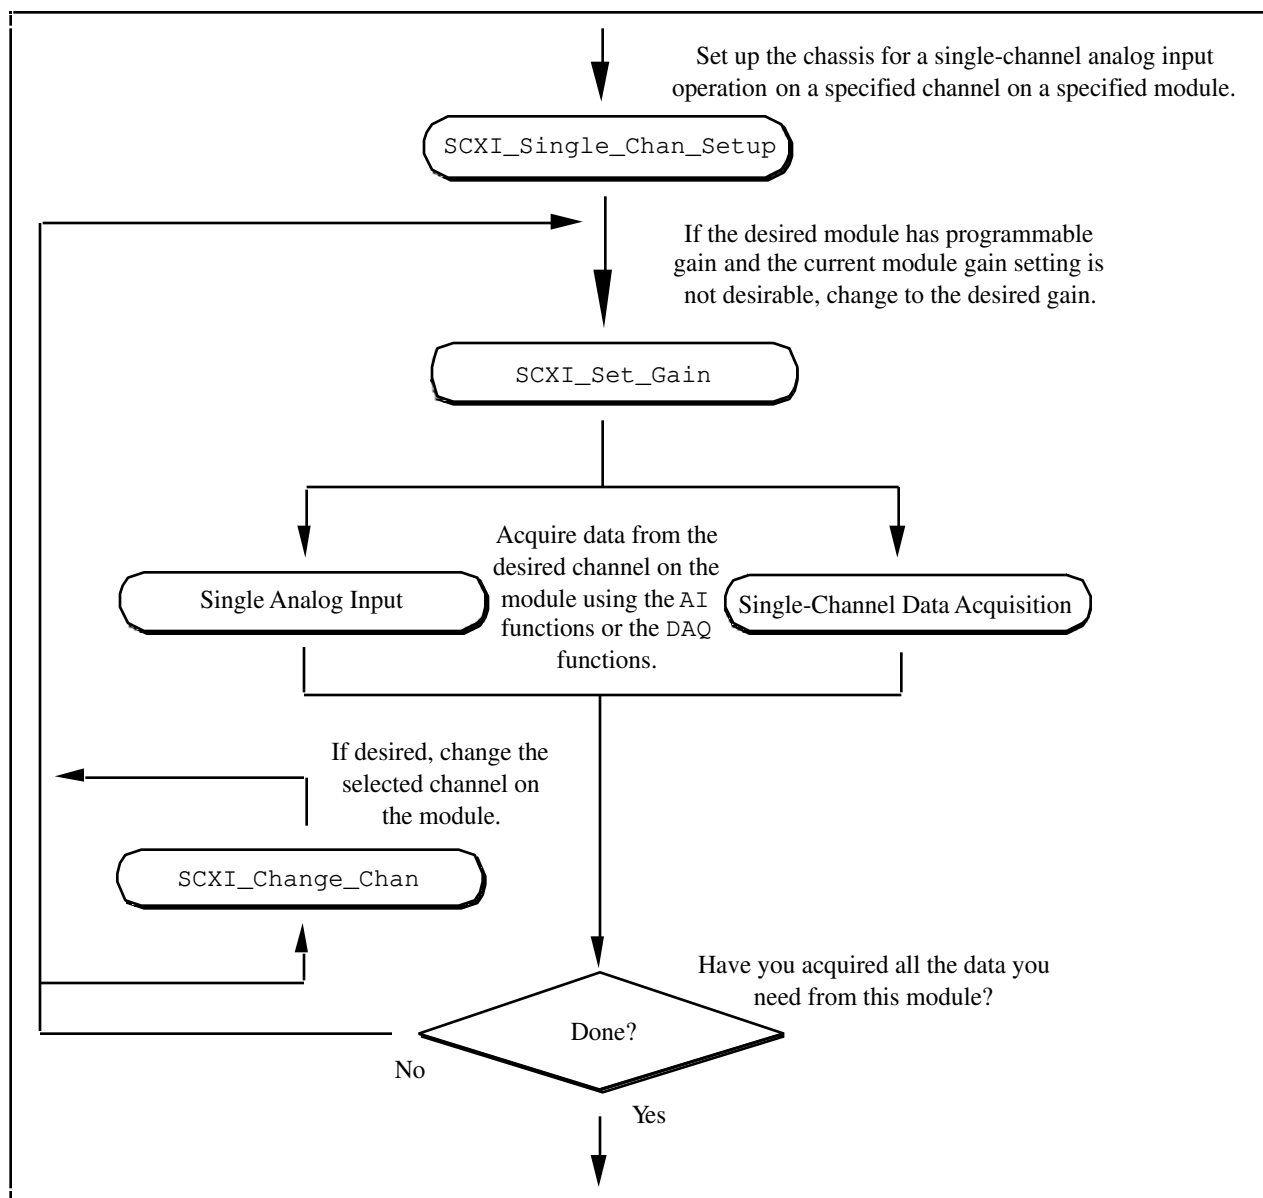
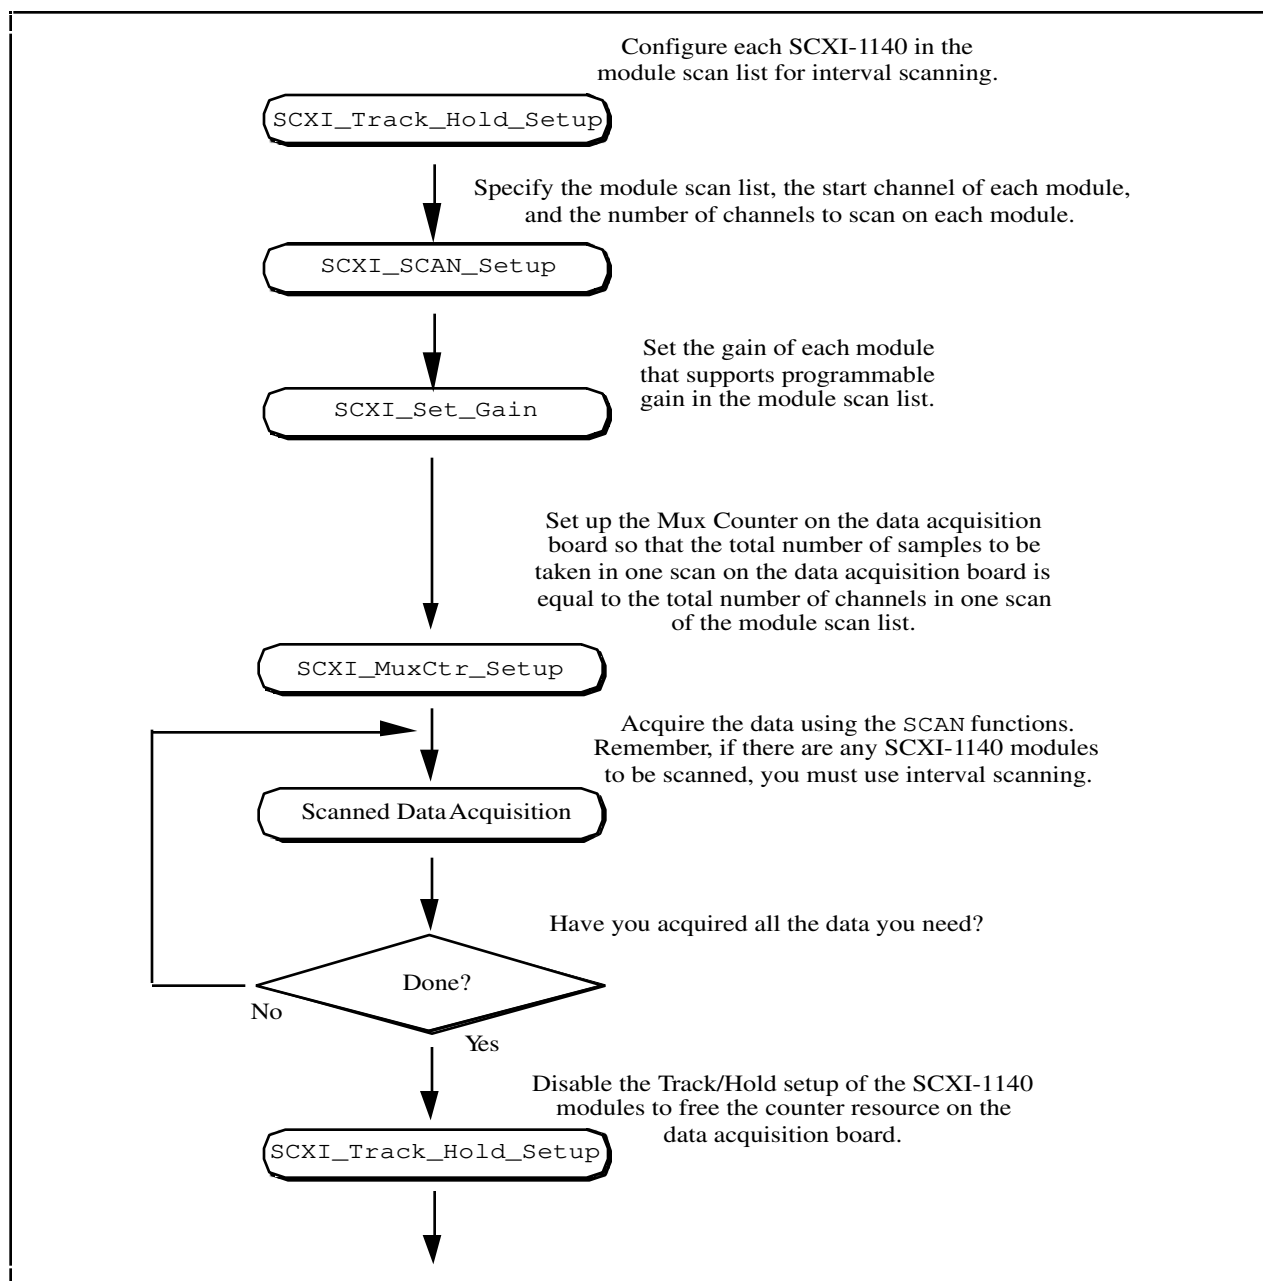

Figure 7-3. Single-Channel or Software-Scanning Operation Using the SCXI-1100, SCXI-1102, SCXI-1120, SCXI-1121, SCXI-1122, or SCXI-1141 in Multiplexed Mode
Figure 7-5. Channel-Scanning Operation Using Modules in Multiplexed Mode
Figure 7-3 shows the function call sequence of a single-channel or software-scanning application using an SCXI-1100, SCXI-1102, SCXI-1120, SCXI-1121, SCXI-1122, or SCXI-1141 module operating in Multiplexed mode.
Figure 7-5 shows the function call sequence of a channel-scanning application in Multiplexed mode. Any combination of module types can be used in a scanning operation, with the following restrictions—if any SCXI-1140 modules are to be scanned, interval scanning must be used, and the module that is directly connected to the DAQ board must be an SCXI-1140.
**Note:** *The SCXI-1122 uses relays to switch the input channels; the relays require 10 ms to switch, so the sampling rate in a channel scanning operation cannot exceed 100 Hz. If you want to take many readings from each channel and average them to reduce noise, you should use the single-channel or software scanning method shown in Figure 7-3 instead of the channel-scanning method shown in Figure 7-5. This means you select one channel on the module, acquire many samples on that channel using the DAQ functions, select the next channel, and so on. This will increase the lifetime of your module relays. Once you have selected a particular channel, you can use the fastest sample rate your DAQ board supports with the DAQ functions.*